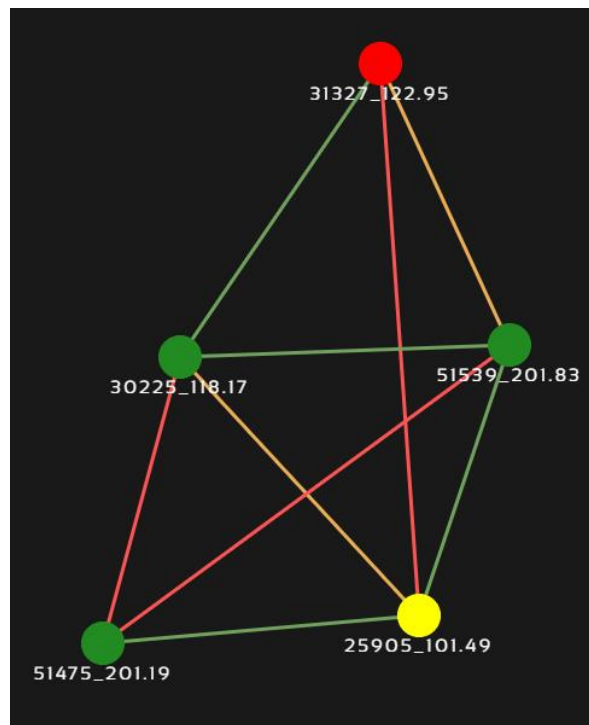

Figure 42 Example Network Topology
- **Color Coded Link Health** – Color coding of each link in the network allows the user to quickly identify the weak links within a network. A link between two nodes will transition from green to yellow to red as the link weakens while also displaying the SNR of the link. This can be seen in **Figure 42 Example Network Topology**.
- **Route Health** – The Silvus StreamScape Utility will alert the user when too many packets are being routed through a single node. In such cases, a node will change from green to yellow to red as the packet queue increases (see ‘31327\_122.95’ and ‘25905\_101.49’ in **Figure 42 Example Network Topology**). This will allow the user to recognize the issue and configure the network accordingly. Table below also shows the values for each scenario.